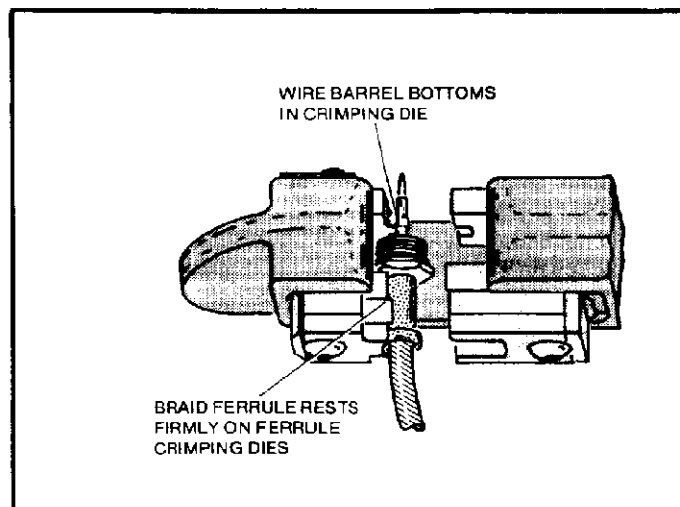

Figure 3
- (c) Place the jack or plug crimp end, assembled on the stripped conductor, in crimping dies as shown in Figure 3.